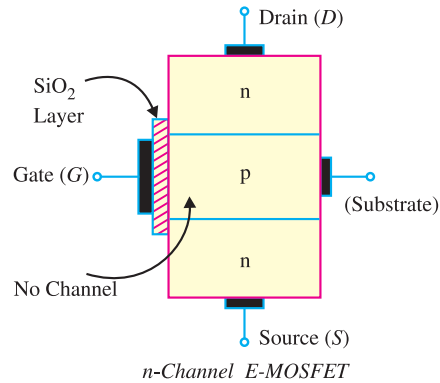

Fig. 19.44
2. E-MOSFET. Fig. 19.44 shows the constructional details of *n*-channel *E*-MOSFET. Its gate construction is similar to that of *D*-MOSFET. The *E*-MOSFET has no channel between source and drain unlike the *D*-MOSFET. Note that the substrate extends completely to the SiO_2 layer so that no channel exists. The *E*-MOSFET requires a proper gate voltage to *form* a channel (called induced channel). It is reminded that *E*-MOSFET can be operated *only* in enhancement mode. In short, the construction of *E*-MOSFET is quite similar to that of the *D*-MOSFET except for the absence of a channel between the drain and source terminals.